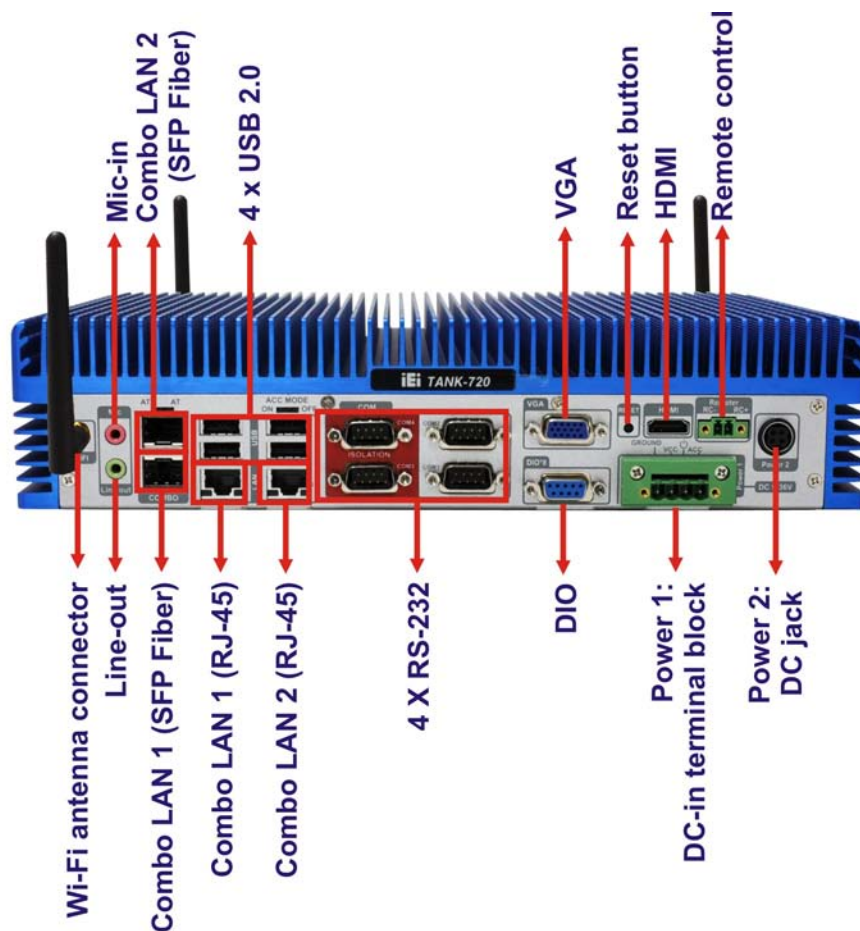

Figure 1-3: TANK-720 Rear Panel
An overview of the rear panel is shown in **Figure 1-3** below.
- Step 1:** Locate the DC-in terminal block connector. The location of the connector is shown in **Figure 1-3**.